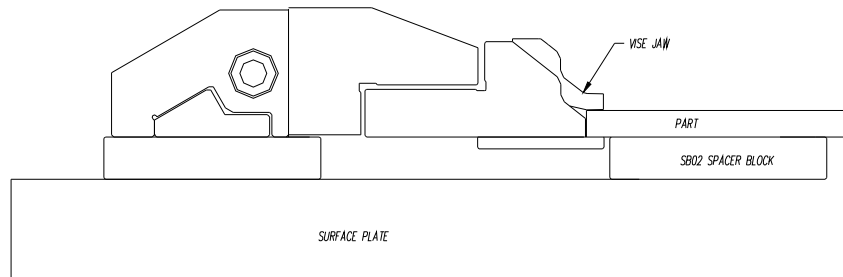

Figure 18
STEP 36. Load the work piece into the vertical vise by placing the work piece onto the SB02 spacer block and sliding it up to the vise bed as shown in Fig. 18.